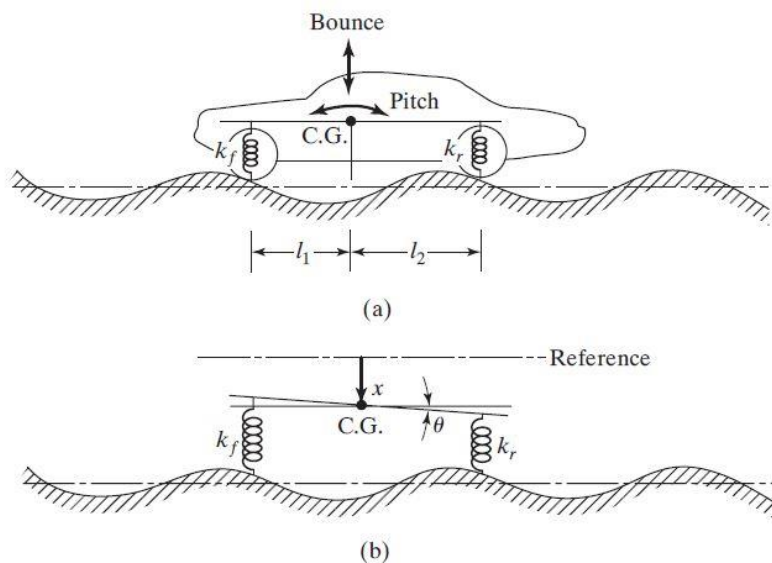

FIGURE 5.45
- 5.46 An automobile is modeled with a capability of pitch and bounce motions, as shown in Fig. 5.45. It travels on a rough road whose surface varies sinusoidally with an amplitude of 0.05 m and a wavelength of 10 m. Derive the equations of motion of the automobile for the following data: mass = 1,000 kg, radius of gyration = 0.9 m, $l_1 = 1.0$ m, $l_2 = 1.5$ m, $k_f = 18$ kN/m, $k_r = 22$ kN/m, velocity = 50 km/hr.